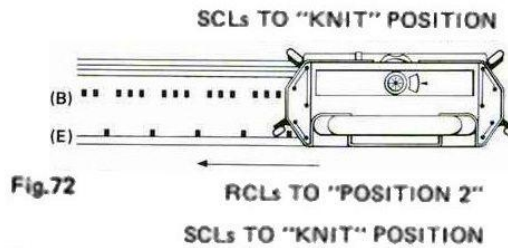

Fig.72
- (a) Set both SCLs in "KNIT" position and at the same time set both RCLs at "Position 2". (Fig.72)
- (b) With carriage on right. Using 3 x 1 selector plate, bring forward into position (E) from position (B) every 4th needle from right end. (Fig.72)